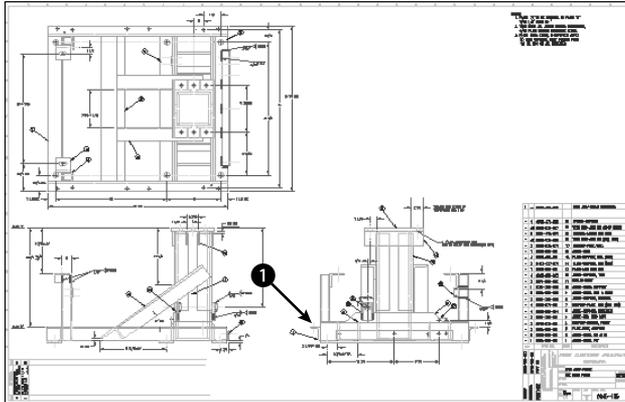
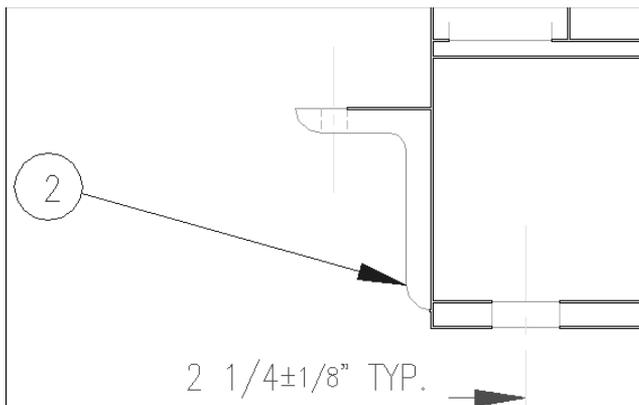

Figure 20-13: This drawing of a base assembly for a commercial washing machine has objects that can be linked to the database of parts.
Figure 20-14: The horizontal angle.
1. You should have `ab20-01.dwg` open from the previous exercise. The Data View window is open with the database visible. The `PART_NO_Link1` link template is current. You can see the entire drawing in Figure 20-13.
6. AutoCAD returns you to your drawing. Use Zoom Window to zoom into the area marked ① in Figure 20-13.
7. Select all the objects that make up the angle bracket indicated by ① in Figure 20-13 (and which the drawing itself labels as 2), as shown in Figure 20-14. Include the two cyan hidden lines representing the hole, but not the yellow centerline. Don't select the vertical line on the right of the angle, which belongs to another part. Press Enter to end selection. AutoCAD returns you to the Data View table and displays `1 Record(s) linked with 8 Object(s)` on the command line.